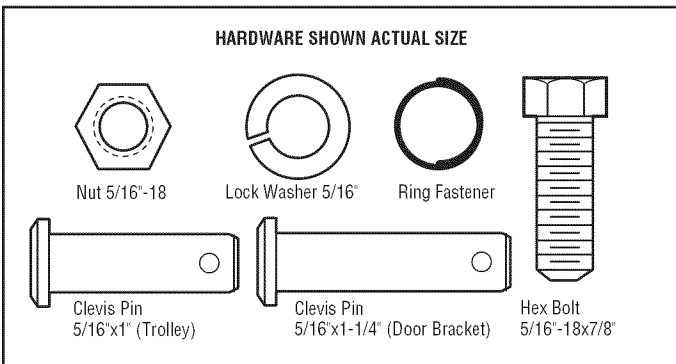

Figure 5
**IMPORTANT:** The groove on the straight door arm **MUST** face away from the curved door arm (Figure 5).